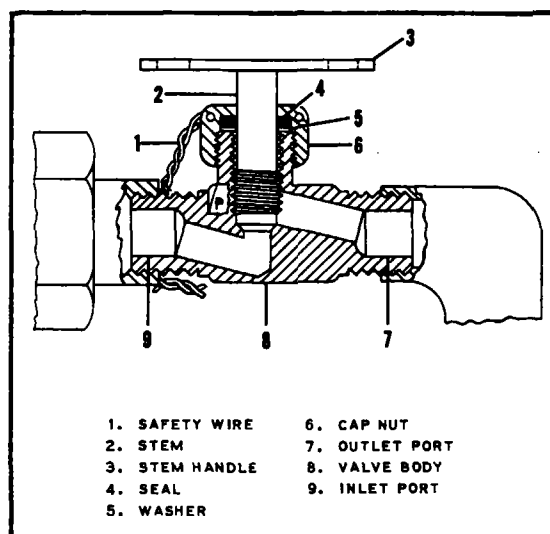

Figure 13-36. Heater Fuel Valve, Serial Nos. 27-1 to 27-7405431 incl.
13-135. INSPECTION OF HEATER FUEL VALVE. (Serial Nos. 27-1 to 27-7405431 inclusive.) (Refer to Figure 13-36.)
- b. The stem assembly (2) may be removed by cutting the safety wire (1) and unscrewing the cap nut (6) with stem handle (3).
- d. If any part of the stem assembly is damaged or if the cap nut (6) is not drilled for safetying purposes, replace the complete valve assembly.
- e. Reassemble the unit and tighten the cap nut (6) tight enough to prevent leakage but not to hamper turning the stem handle (3).
- f. Safety the cap nut (6) with safety wire (1) MS20995C32. (Refer to Figure 13-36.)